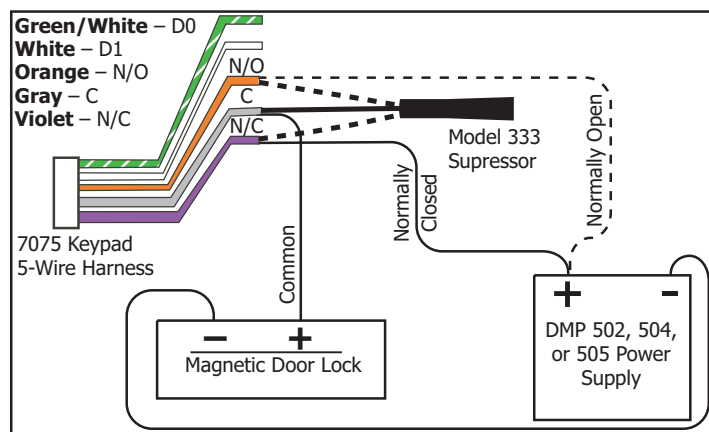

Figure 3: 793 5-wire Harness and Suppressor Installation
One Model 333 Suppressor is included with the 793 Keypad. Refer to Figure 3 and install the suppressor across the 5-wire output/reader harness Common (C) and Normally Open (N/O) or Normally Closed (N/C).